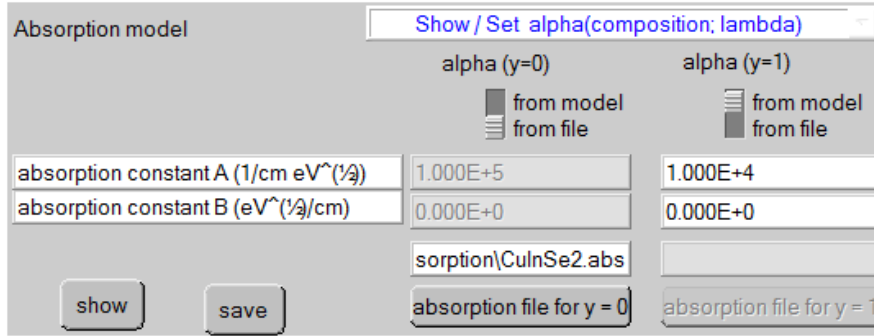

Figure 3.14 Setting the absorption constant from file (left) or from model (right). The grading can be shown or set by clicking the ‘Show/set alpha’-button.
The optical absorption constant can be set from either from a model or from a file, see Figure 3.14. When it is set from a model, $\alpha(\lambda)$ is given by (6).